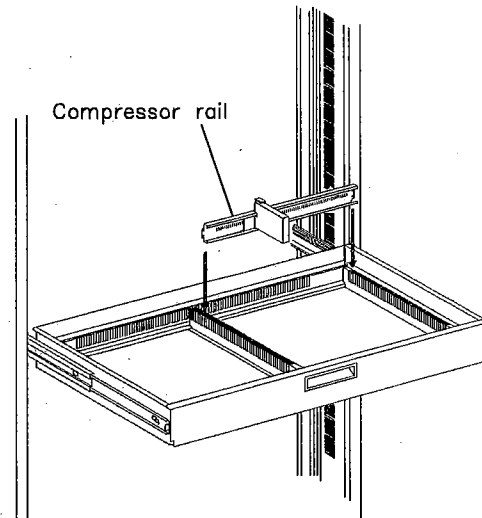

Figure 5. Compressor installation
5. Install the first rail with its compressor into the rear slots of the center rail and either the L.H. or R.H. end rail. The compressor should be facing the front of the drawer (see Figure 5.)
7. Install the second rail in front of the media, allowing some clearance between the media and the back of the rail. (see Figure 5.) Install remaining rails in the same manor.